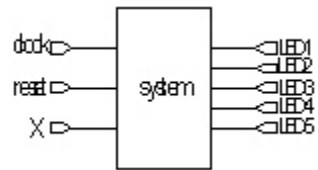

Figure 2. Block diagram
**Second step;** Draw a block diagram of the system. Refer to figure 2.